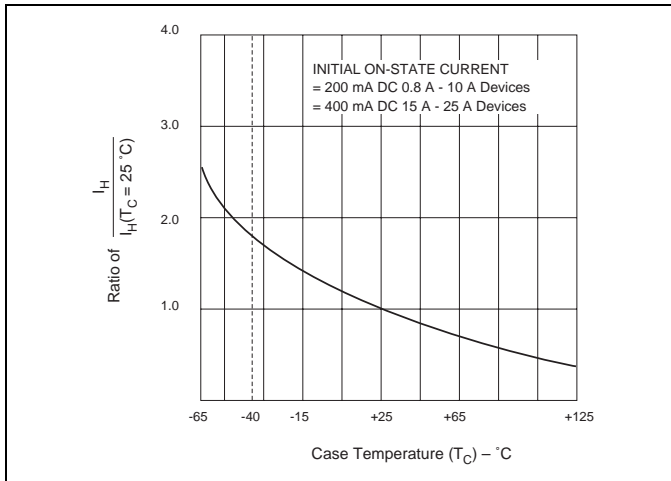

Figure E2.14 Normalized DC Holding Current versus Case Temperature
- See Figure E2.14 for I_H versus T_C .